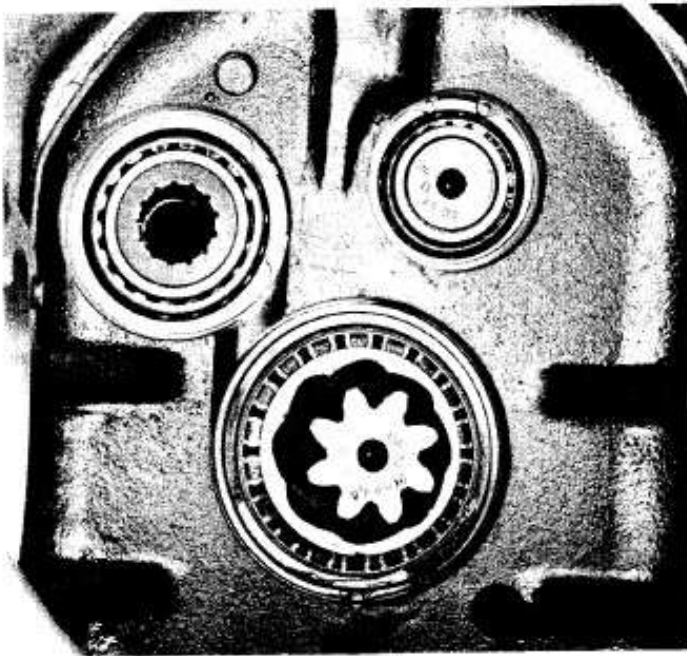

FIG. 7
4. INSTALL MAIN DRIVE SHAFT FRONT BEARING RETAINER SNAP RING. (REF. FIG. 7)